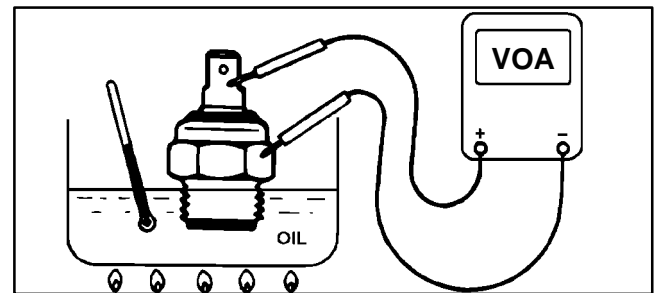

Figure 39
2. Put switch in a container of oil with a thermometer and slowly heat the oil (Fig. 39).